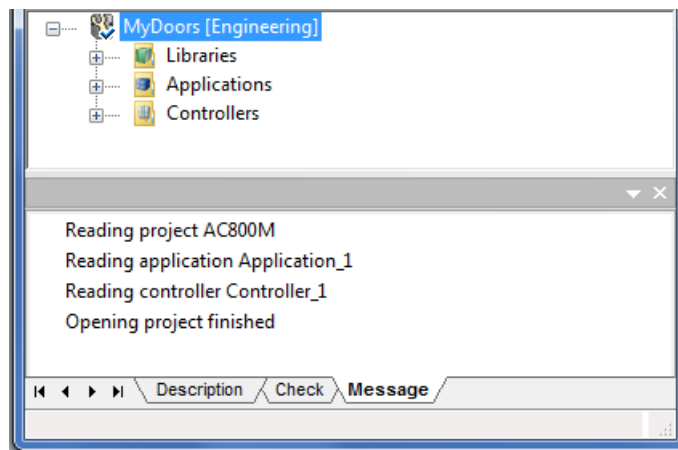

Figure 13. MyDoors project opened in Project Explorer.
- Click **OK**. Project Explorer creates and opens MyDoors project, see Figure 13.